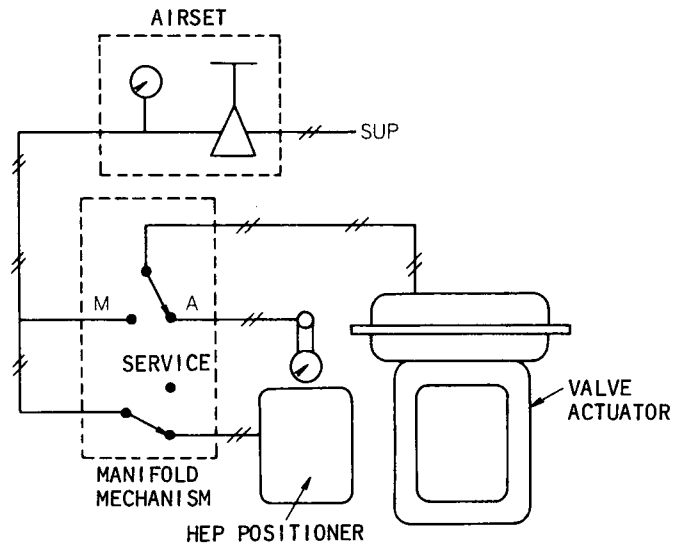
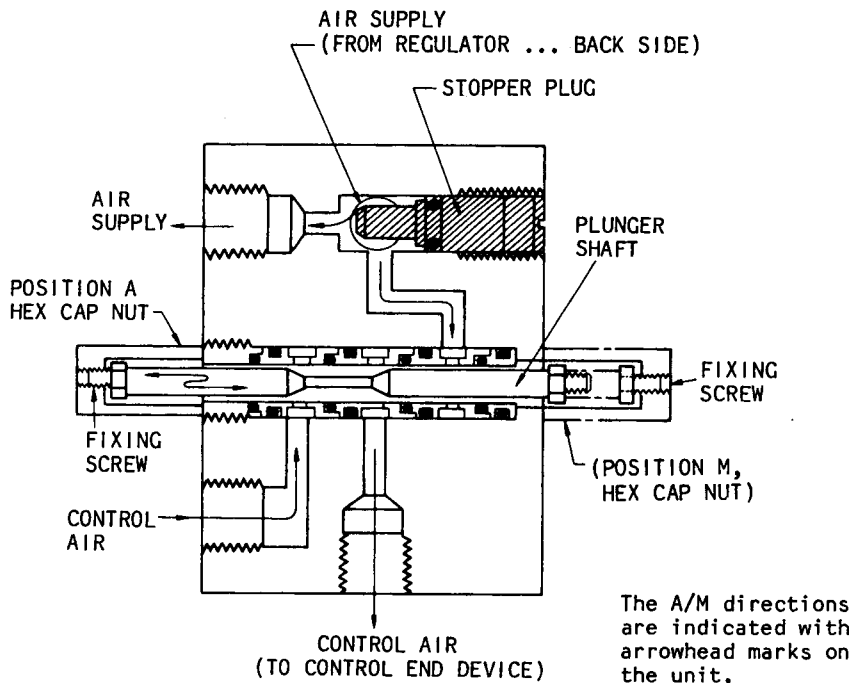

Fig. 17. Bypass Setup
Fig. 18. Bypass Mechanism
This supplement is for the Bypass Manifold which is installed together with the HEP Positioner on a valve actuator. The Bypass Manifold is comprised of an Airset and an air switching mechanism, and allows to select auto (A) position, manual (M) position, and service position. A bypass setup is shown in Fig. 17 and the manifold mechanism is shown in Fig. 18.